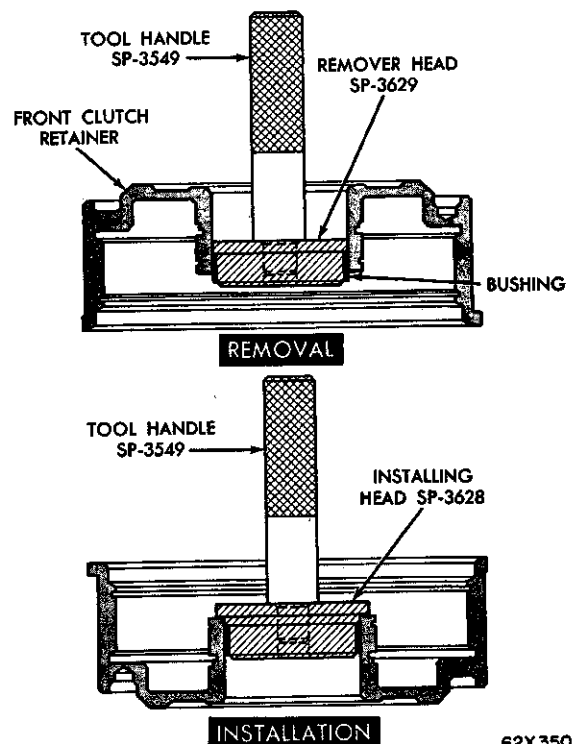

Fig. 70—Replacing Front Clutch Retainer Bushing
(1) Lay the clutch retainer (open end down) on a clean smooth surface and place the removing head Tool SP-3629 in the bushing. Install the handle Tool SP-3549 in the removing head (Fig. 70).
(2) Drive the bushing straight down and out of the clutch retainer bore. Be careful not to cock the tool in the bore.
(3) Lay the clutch retainer (open end up) on a clean smooth surface. Slide a new bushing on the installing head Tool SP-3628, and start them in the clutch retainer bore.
(4) Install handle Tool SP-3549 in the installer (Fig 70). Drive the bushing into the clutch retainer until the tool bottoms.
(5) Thoroughly clean the clutch retainer before assembly and installation.